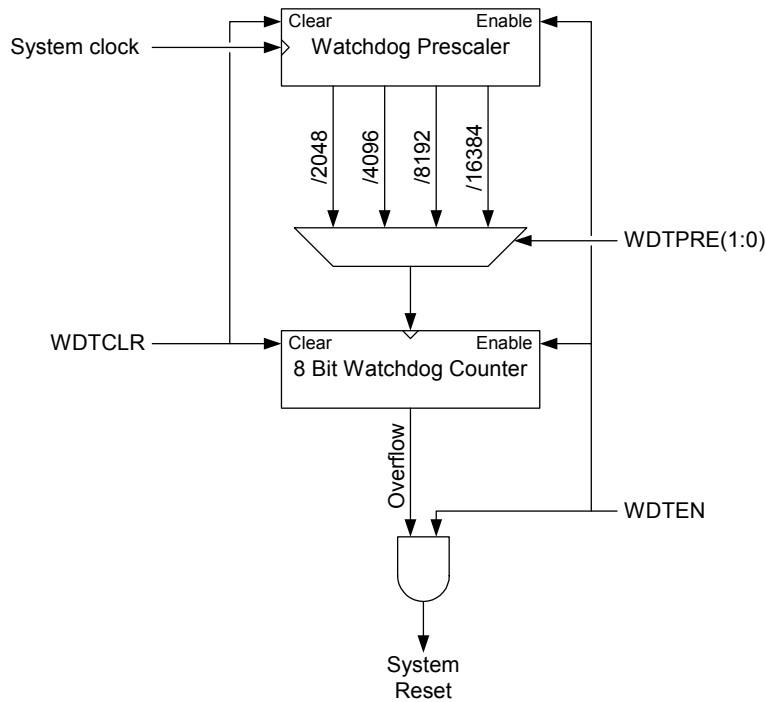

Figure 14. Watchdog Timer
**CC1010** includes an 8-bit watchdog timer that is clocked by the system clock. The clock is divided by a number in the range from 2048 to 16384, controllable through **WDT.WDTPRE(1:0)**. The divided clock controls an 8-bit timer, which generates system reset upon overflow. A block diagram for the Watchdog Timer is shown in Figure 14.